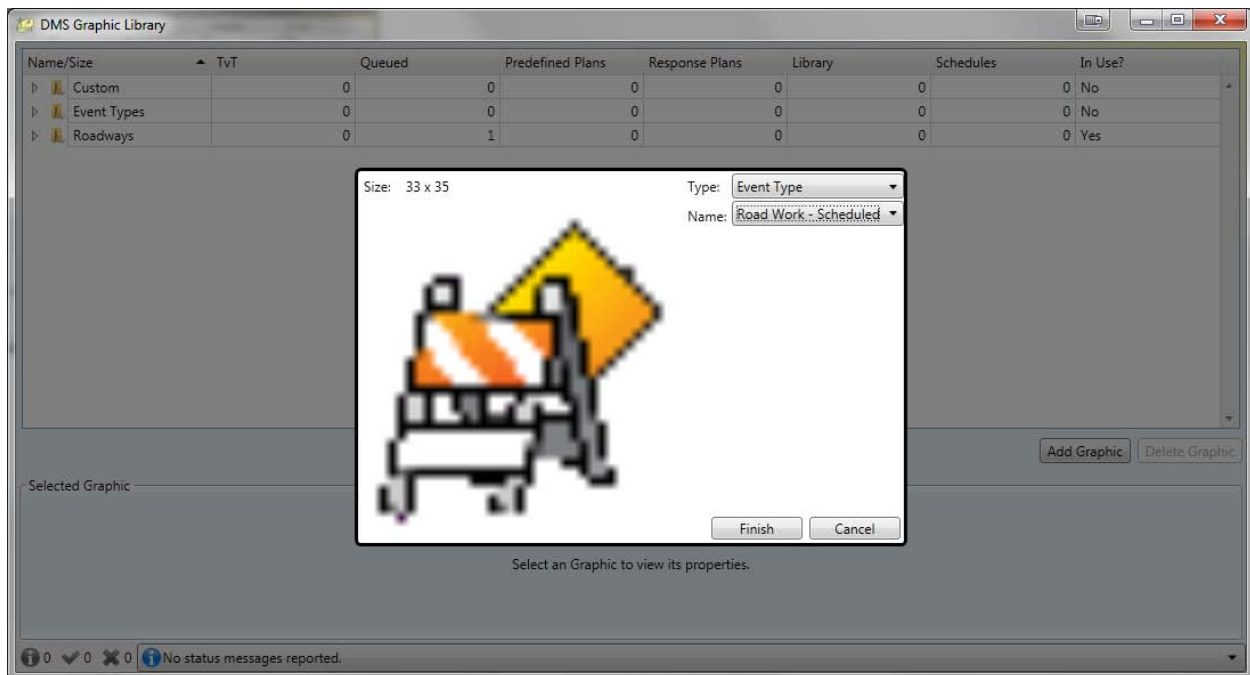

Figure 3-93– DMS Graphic Library – Add Graphic dialog
- **Add Graphic:** Shows dialog that allows a user to upload a file and then displays the Add Graphic dialog in Figure 3-93